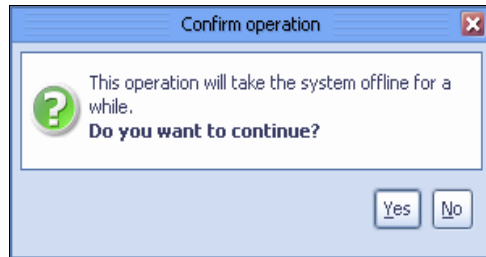

Figure 10-55 Delete library: Confirm operation window
4. In the field of the Confirm data loss window, enter “data loss” and click **OK**. A confirmation message box opens (Figure 10-55).